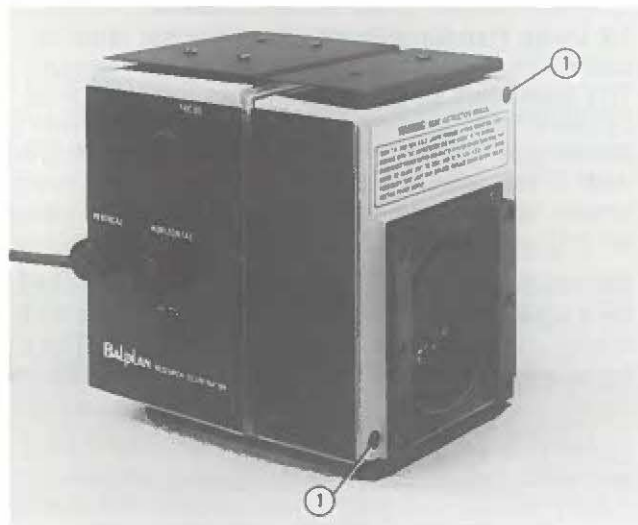

FIGURE 4-1 LAMPHOUSE (T-H)
4.1.2 Remove the two screws from the front cover (Figure 4-1) and separate the two sections of the lamphouse.